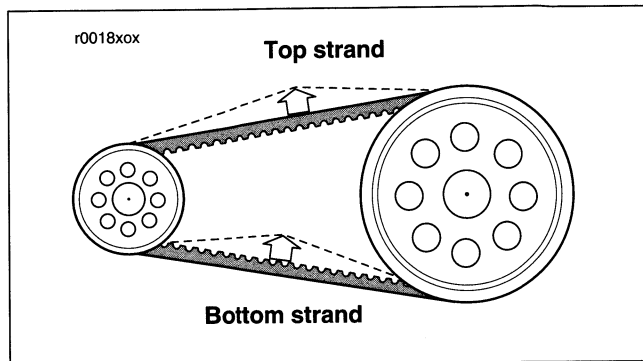

Figure 26. Belt Deflection
1. See Figure 26. Apply 10 lbs of force at the midpoint of the belt's appropriate strand. The deflection should be upward as shown.